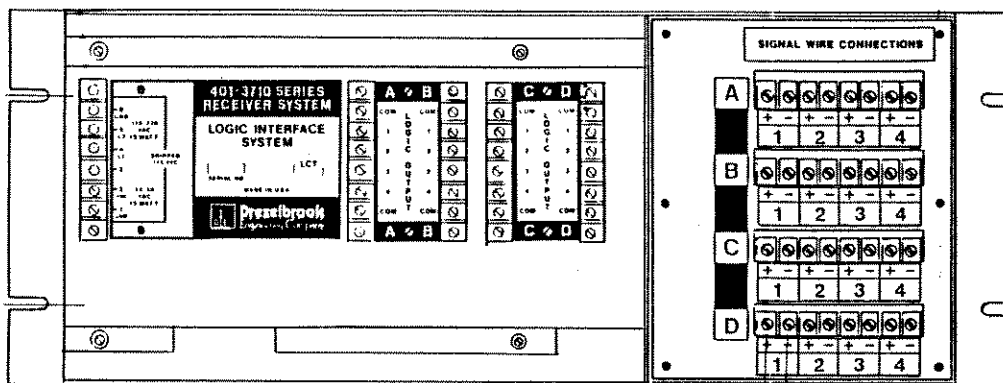

Fig. 5-1
- To verify proper power supply operation, measure the voltage across any pair of signal loop terminals at the receiver that do not have field wiring. See Figure 5-1. Voltage must equal 24 ± 0.3 Vdc.
- Disconnect a pair of signal wires at the receiver. See Figure 5-1.